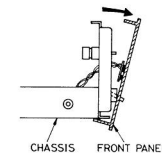
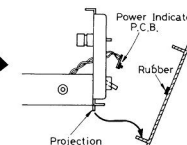

Fig. 4
Fig. 5
6. The 3 projections on the chassis are fitted into the 3 holes on the bottom of the front panel. The front panel can be removed from the chassis, therefore, by tilting it forward (as shown in figure 4), and pushing it downward as shown in figure 5.